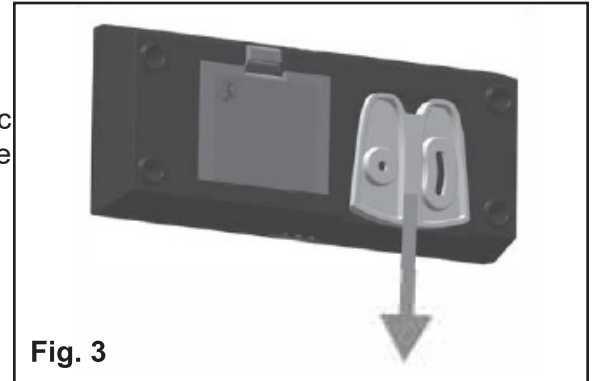

Fig. 3
- Detach the adapter from the body of the remote control wall transmitter. (**Fig. 3**)